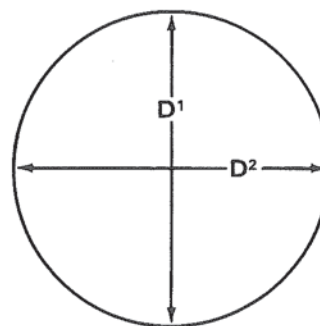

Figure 43. Measuring Camshaft and Bearings.
1. Measure camshaft bearings, take two (2) readings at 90° to each other. Figure 43. Compare readings, if difference exceeds 0.01 mm., replace bearing. Write down average of readings.